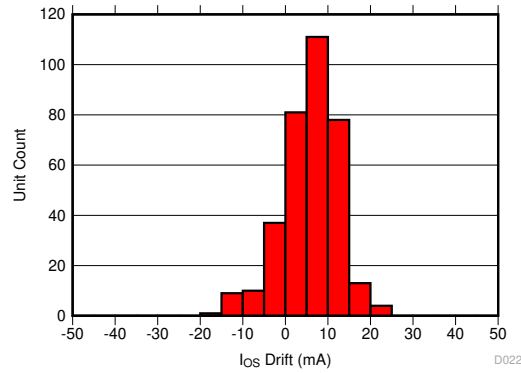

Figure 8-6. Input-Referred Offset Drift After AEC-Q100 High Temperature Operating Life Stress Test
The same compensation techniques used in the TMCS1100 to reduce temperature drift also greatly reduce lifetime drift due to aging, stress, and environmental conditions. Typical magnetic sensors suffer from up to 2% to 3% of sensitivity drift due to aging at high operating temperatures. The TMCS1100 has greatly improved lifetime drift, as defined in the *Electrical Characteristics* for total sensitivity error measured after the worst case stress test during a three lot AEC-Q100 qualification. All other stress tests prescribed by an AEC-Q100 qualification caused lower than the specified sensitivity error, and are within the bounds specified within the *Electrical Characteristics* table. Figure 8-4 shows the total sensitivity error after the worst-case stress test, a Highly Accelerated Stress Test (HAST) at 130°C and 85% relative humidity (RH), while Figure 8-5 and Figure 8-6 show the sensitivity and offset error drift after a 1000 hour, 125°C high temperature operating life stress test as specified by AEC-Q100. This test mimics typical device lifetime operation, and shows the likely device performance variation due to aging is vastly improved compared to typical magnetic sensors.